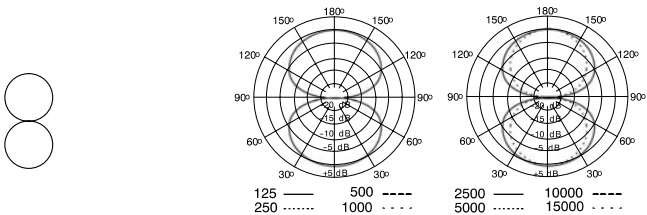

FIGURE 9. TYPICAL BIDIRECTIONAL POLAR PATTERNS
**Bidirectional.** Picks up equally from the front and back of the microphone while rejecting sounds from the sides. Bidirectional is often for stereo recording (such as mid-side and Blumlein techniques). See Figure 9.